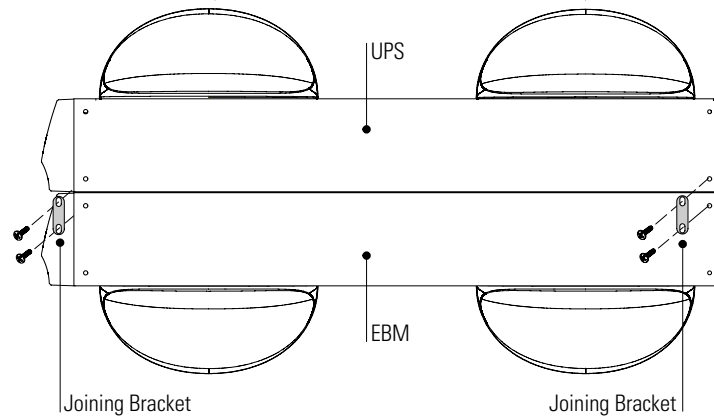

Figure 14. Installing the Joining Brackets (Top View with Pedestals)
11. Align each joining bracket with the adjacent corner screw holes and secure with the supplied screws (see Figure 14).